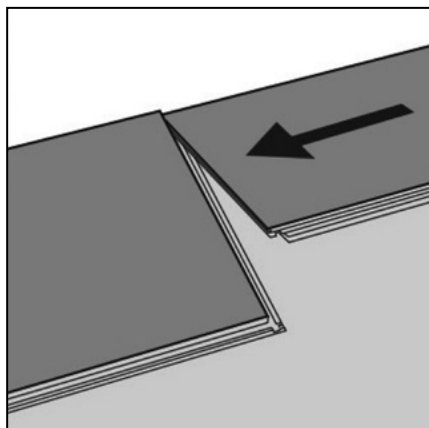

Figure 22 Second plank, first row
- > Place the short end of the second plank close to the corresponding short end of the previous plank. Carefully fold it down with a single action movement; (fig. 22).